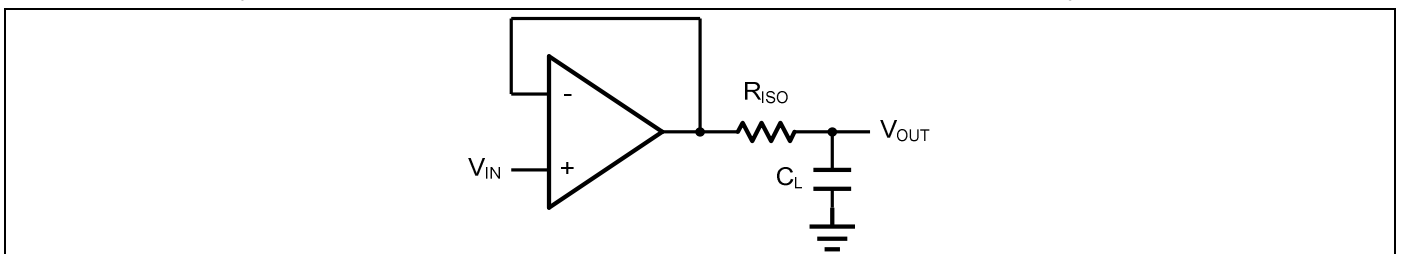
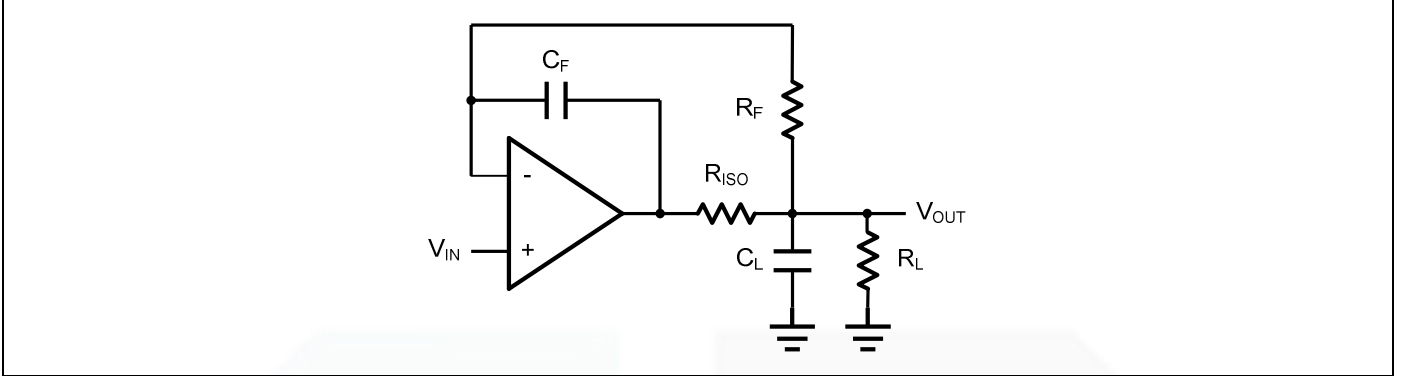

Figure 2. Indirectly Driving a Capacitive Load Using Isolation Resistor
Figure 3. Indirectly Driving a Capacitive Load with DC Accuracy
The P60X family is optimized for bandwidth and speed, not for driving capacitive loads. Output capacitance will create a pole in the amplifier's feedback path, leading to excessive peaking and potential oscillation. If dealing with load capacitance is a requirement of the application, the two strategies to consider are (1) using a small resistor in series with the amplifier's output and the load capacitance and (2) reducing the bandwidth of the amplifier's feedback loop by increasing the overall noise gain. Figure 2. shows a unity gain follower using the series resistor strategy. The resistor isolates the output from the capacitance and, more importantly, creates a zero in the feedback path that compensates for the pole created by the output capacitance.
The circuit in Figure 3 is an improvement to the one in Figure 2. R_{F} provides the DC accuracy by feed-forward the V_{IN} to R_{L} . C_{F}